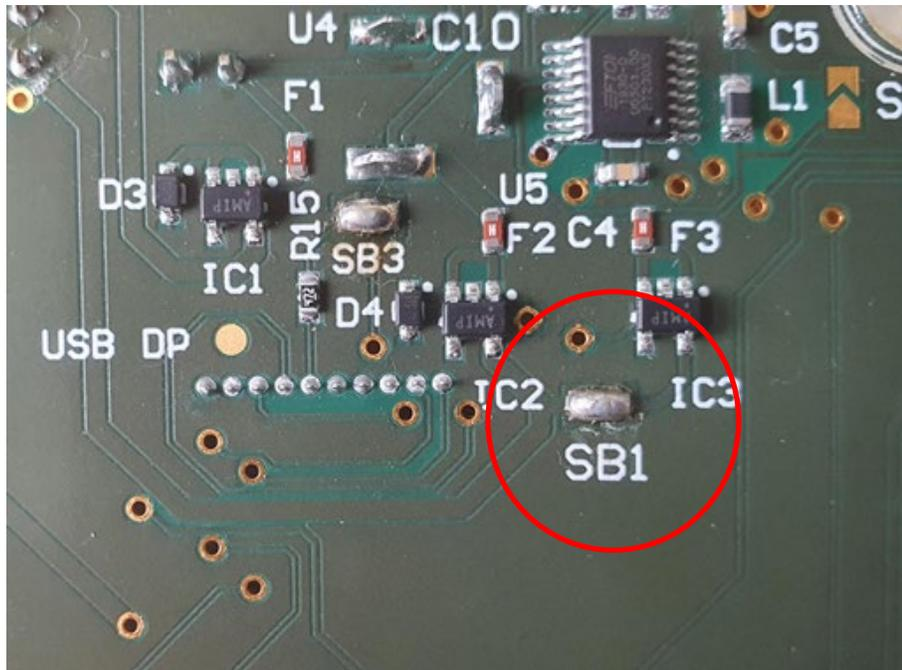

Figure 12. Solder applied to solder bridge “SB1” to enable power over USB
- Apply solder to the solder bridge designated “SB1” on the underside of the motherboard, as per Figure 12.